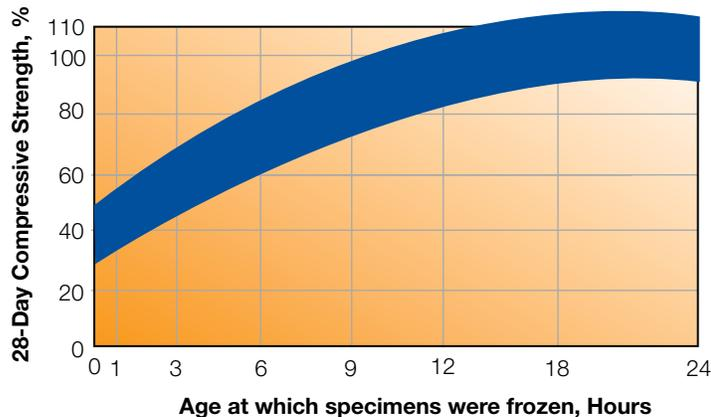

Figure 2. Effect of Freezing on 28-Day Compressive Strength of Concrete (Source: ACI Publication SP-39, “Behavior of Concrete Under Temperature Extremes”)
- that has frozen during the first 24 hours can experience up to 50% loss in compressive strength at 28 days (see Figure 2)